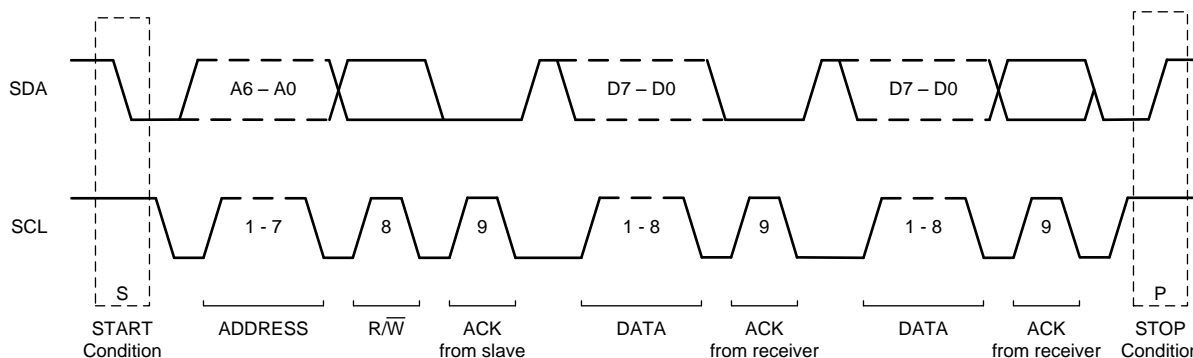

Figure 55. I²C Data Transfer Format
Figure 55 shows the format of the data transfer. The master initiates all transactions with the ADS122C04 by generating a START (S) condition. A high-to-low transition on the SDA line while SCL is high defines a START condition. The bus is considered to be busy after the START condition.